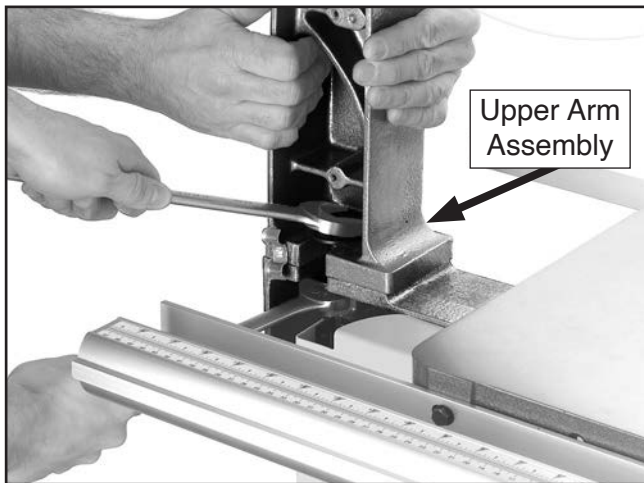

Figure 3. Loosening hex bolt while assistant supports upper arm assembly.
5. While an assistant supports upper arm assembly (see **Figure 3**), remove hex nut and hex bolt securing it to base, then remove upper arm and set it aside.